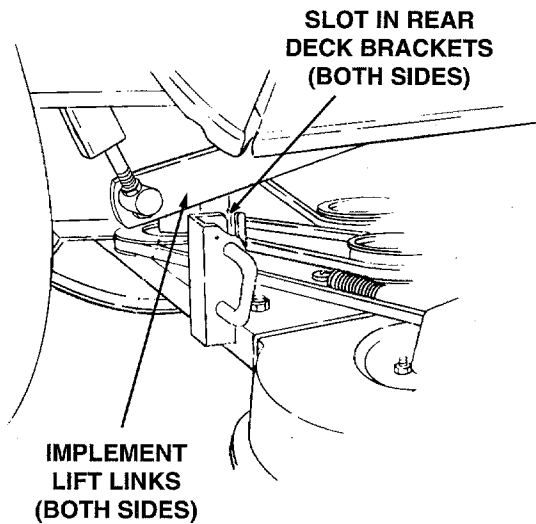

Figure 47
3. Make sure the slot in both rear deck brackets aligns with the implement lift links on each side of the tractor (Refer to Figure 47).